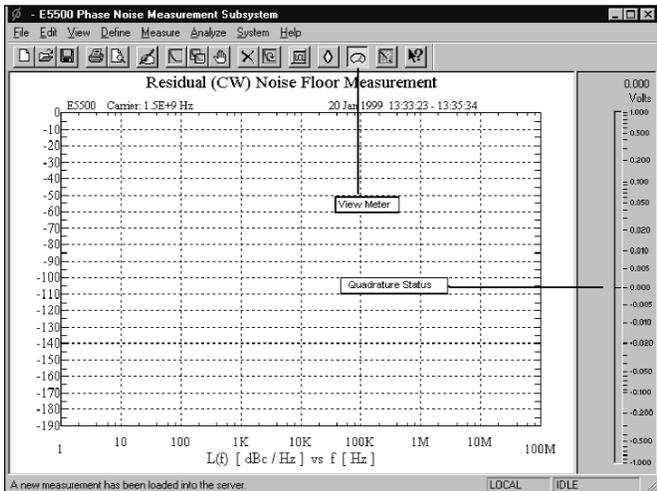

**Figure 2-9. Connection diagram for pulsed carrier residual phase noise measurement**
1. Connect the components as shown in Figure 2-9. The amplifier after the pulse modulator may be necessary to set the appropriate power levels at the signal and reference inputs of the phase noise measurement system. Do not connect the signal paths to the phase noise measurement system at this step.